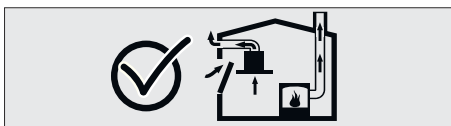

Fig. 5
■ Therefore, adequate fresh air ingress must always be ensured. Fig. 5